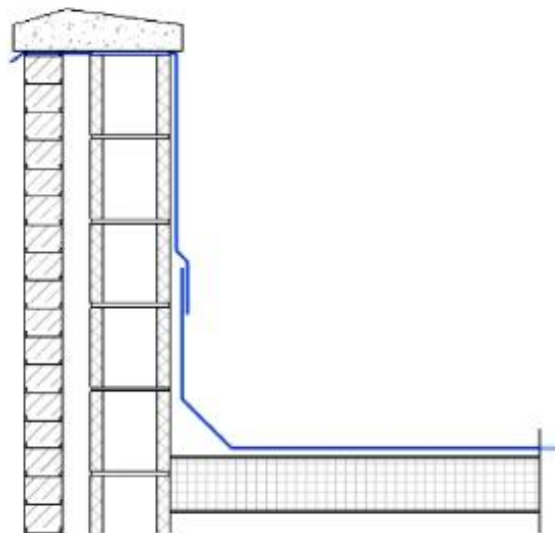

Figure 16–33
3. Draw flashing similar to that shown in Figure 16–33.